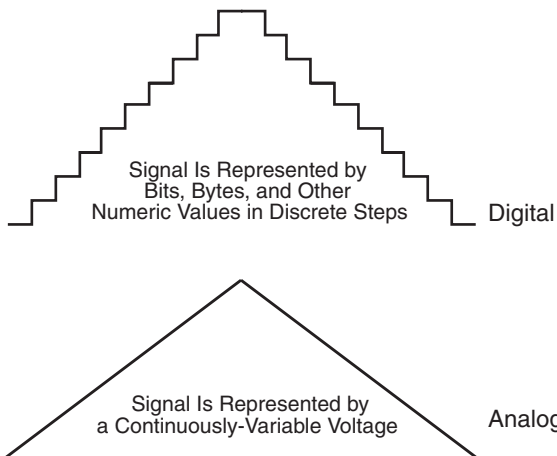

FIGURE 14-1 The two major sensor types: digital and analog.
Broadly speaking, there are two types of sensors (see Fig. 14-1).
- *Digital sensors* provide simple on/off or true/false results or the stepped binary results shown in Fig. 14-1. A switch is a good example of a digital sensor: either the switch is open or it's closed. An ultrasonic ranger, which returns a binary value, with each bit indicating a specific distance, is also a digital sensor.